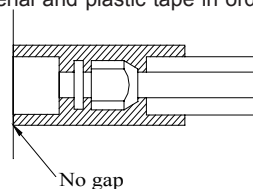

Fig.17
- (1) The connection pipe should be insulated by the insulating material and plastic tape in order to prevent the connection pipe condensing and leaking.
- (2) The joints of the indoor unit should be wrapped with the insulating material and no gas is allowed on the joint of the indoor unit, as shown in Fig.17.